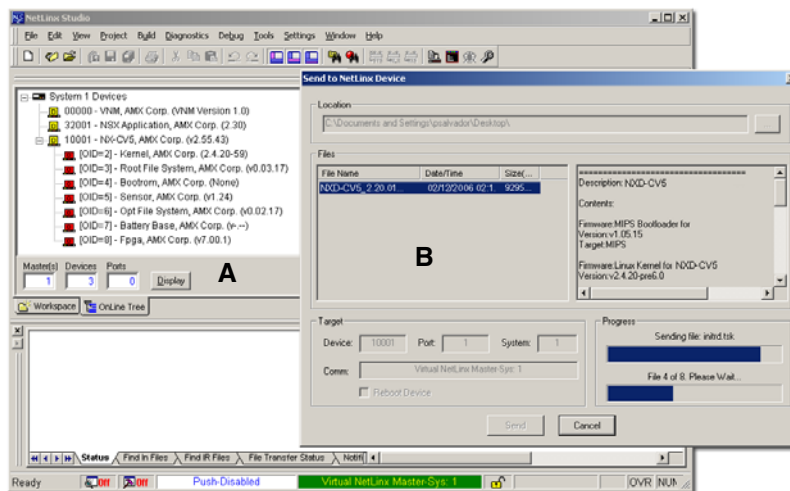

FIG. 50 Using USB for a Virtual Master transfer
7. From within Studio, select **Tools > Firmware Transfers > Send to NetLinx Device** from the Main menu to open the Send to NetLinx Device dialog (**B** in FIG. 50). Verify the panel's System and Device number values match those values listed within the System folder in the **OnLine Tree** tab of the Workspace window (**A** in FIG. 50).
11. Click **Send** to begin the transfer. The file transfer progress is indicated on the bottom-right of the dialog (**B** in FIG. 50).